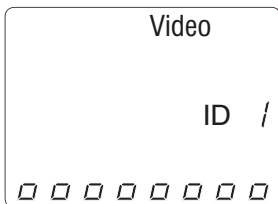

Figure 10. Detected Coax Remote
- If wire mapping remotes are found, the connector type illuminates and a numeric value (1 to 19) appears in the ID field of the display screen showing the wire mapping remotes that match the connected cable (see Figure 10).